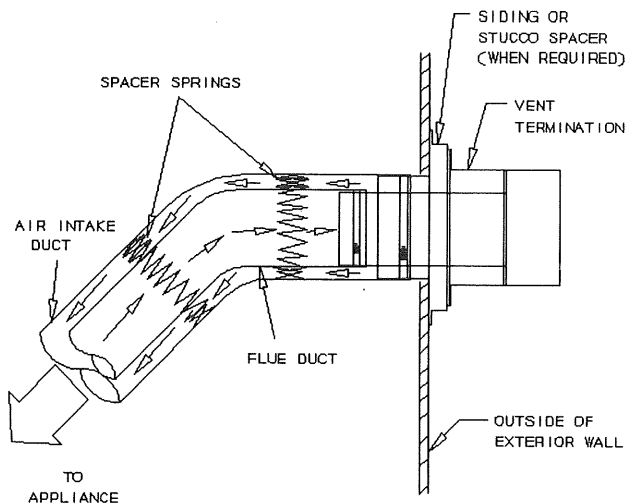

Figure 4
- 5) After steps 1,2, and 3 are completed, the vent termination is to be installed as shown in **Figure 4**.
- 6) Depending on wall thickness, allow 1 inch to protrude from internal wall for pipe clamp installation. You may cut vent termination pipes to accommodate your particular installation and wall thickness. Avoid stucco on vent termination. The vent termination must be removable for service and pipe inspection. Use vent spacer when stucco or siding is present as shown in **Figure 4**.